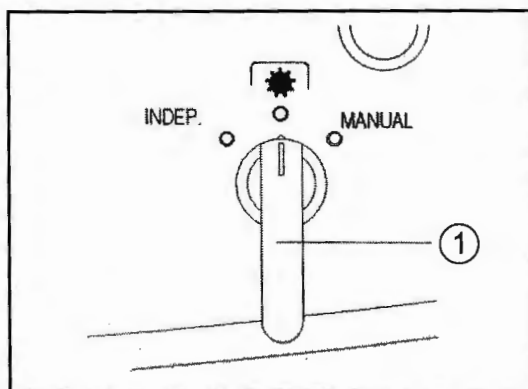

Fig. 18-2 - Power Take-Off Switch
After using the PTO, ensure the independent electro-hydraulic PTO control switch (1) is in the **OFF** position to disengage the PTO clutch. (See Fig. 18-2).